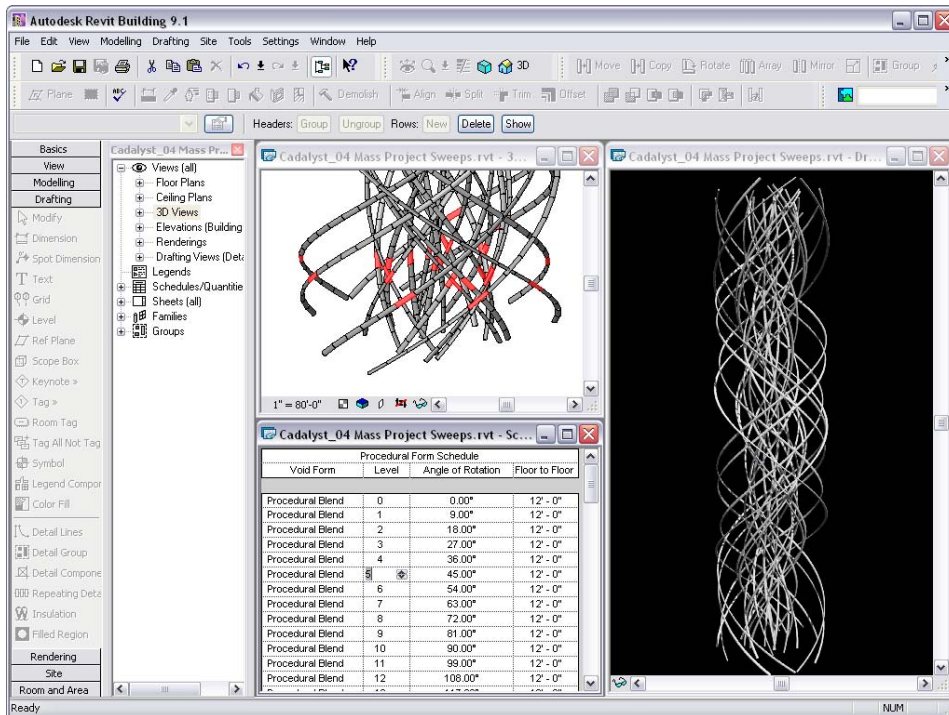

Figure 5:
- Once set, each instance aligns with its two adjacent instances to form a continuous structure (shown in Figure 5).